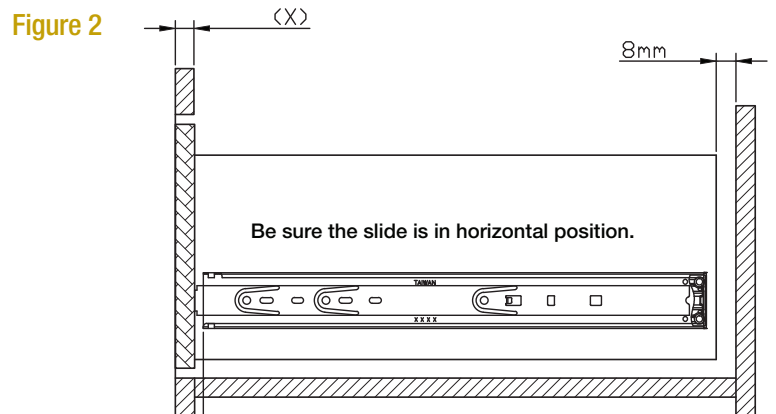

Figure 2
- For applications with an inset drawer front, refer to Figure 2.